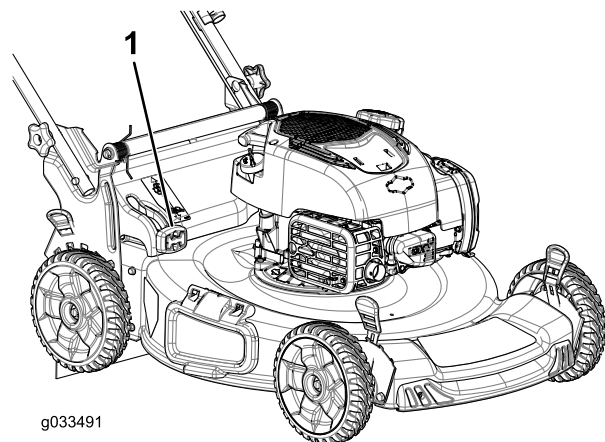

Figure 23
- **To bag the grass and leaf clippings**, press the button on the bag-on-demand lever and move the lever forward until the button on the lever pops up (Figure 23).